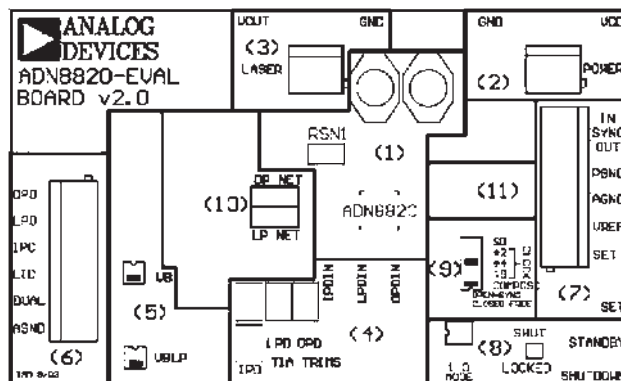

Figure 1. Demo Board Overview Map
Figure 1 shows an overview map of the demo board. Section numbers are referenced inside parenthesis. The ADN8820 is mounted near the center of the board in Section (1). This area contains the minimum application circuitry needed for the device. The demo board was designed significantly larger to provide maximum flexibility and ease of customer use.